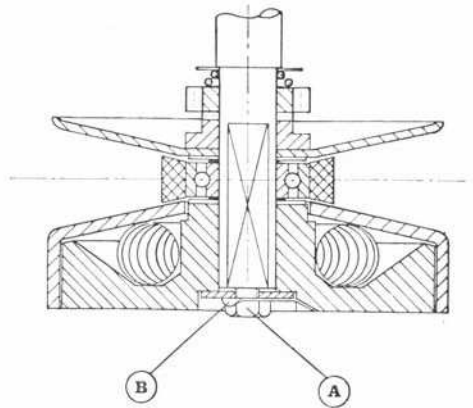

fig 22
6.3 Expanding Pulley (fig. 22)
- loosen screw A, fig. 22 from the lock washer B;
- unscrew screw A, fig. 22.
8.4 Jamming of the expanding pulley (fig. 22)